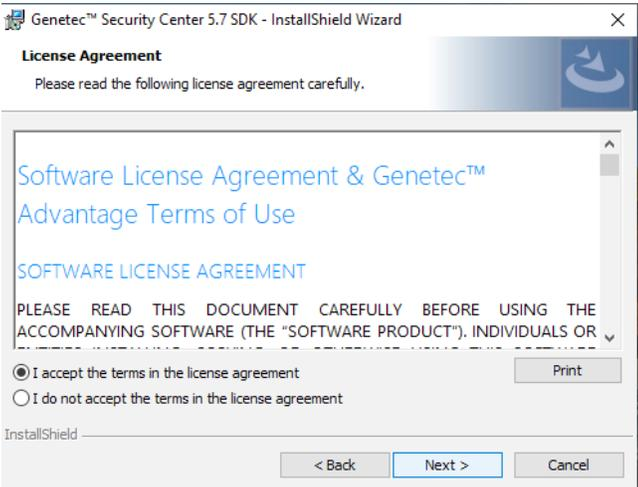

Figure 12
14. Read and accept the license agreement, then click Next (Figure 12).